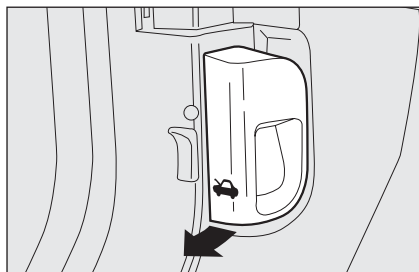

fig. 94
- ☐ pull lever **fig. 94** in the direction of the arrow;